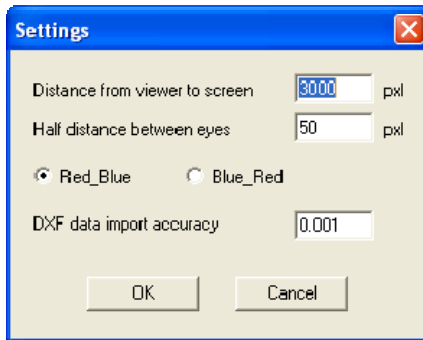

Figure 3-9 Settings dialog box
- From the Access menu, select Settings. The dialog box of Figure 3-9 appears.